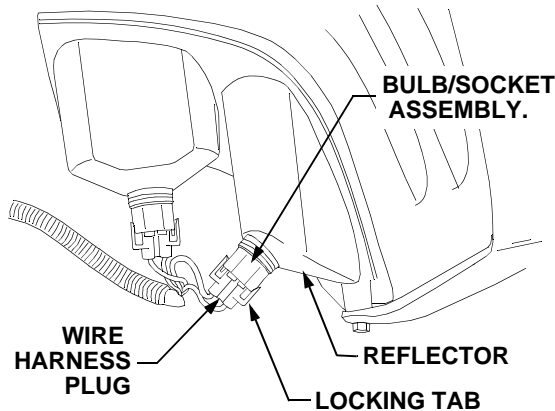

Figure 34
- Pull both locking tabs of the wire harness plug away from the bulb/socket assembly and unplug the wire harness from the bulb assembly. See Figure 34.